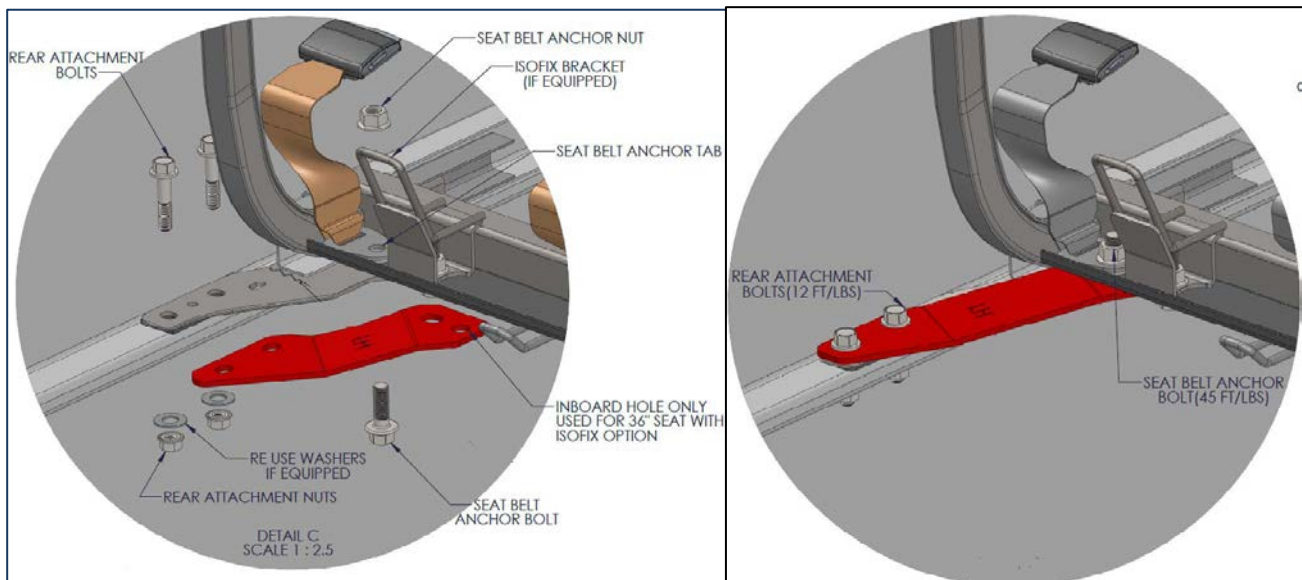

Figure 6: Bracket Installation (Driver's Side Shown) – 30 Inch and 32 Inch Seats
3. Place the new bracket over the top of the original bracket (TBB 220624 for driver's side or TBB 220625 for curb side). See **Figure 6**.